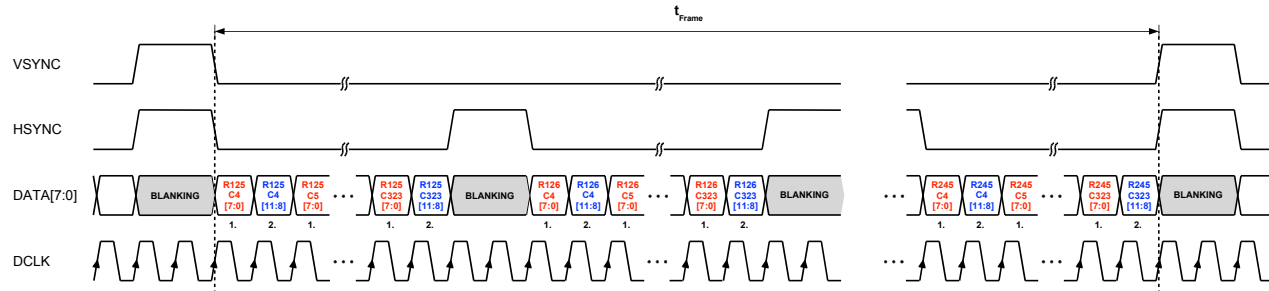

Figure 31: **lsb/msb** split mode
- lsb/msb split mode: Transfers 12 bit pixel data with LSByte leading and MSByte trailing with 2x DCLK. Refer to Table 15 and Figure 31.